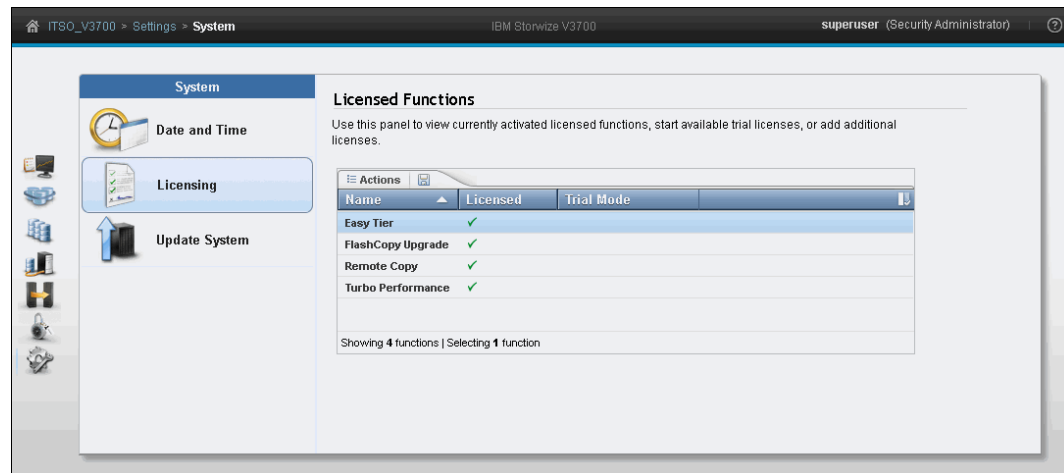

Figure 9-9 Easy Tier function licensed
7. As shown in Figure 9-9, the Easy Tier function is licensed on your IBM Storwize V3700.